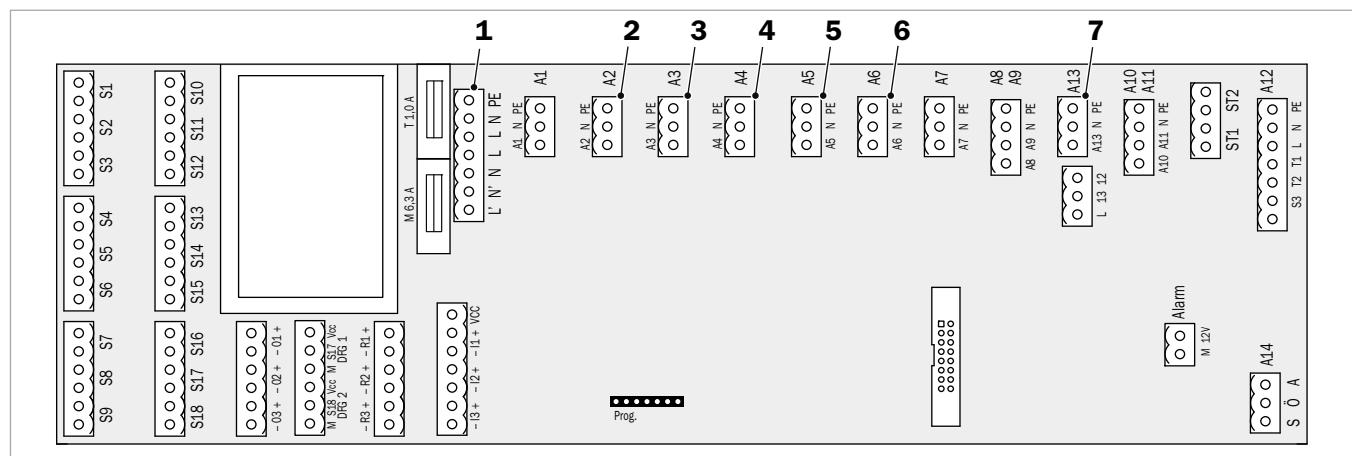

Fig. 8: Mains module
2. Remove the plug from (1) the mains module (\rightarrow Fig. 8) and plug it into (1) the emergency cable tree.